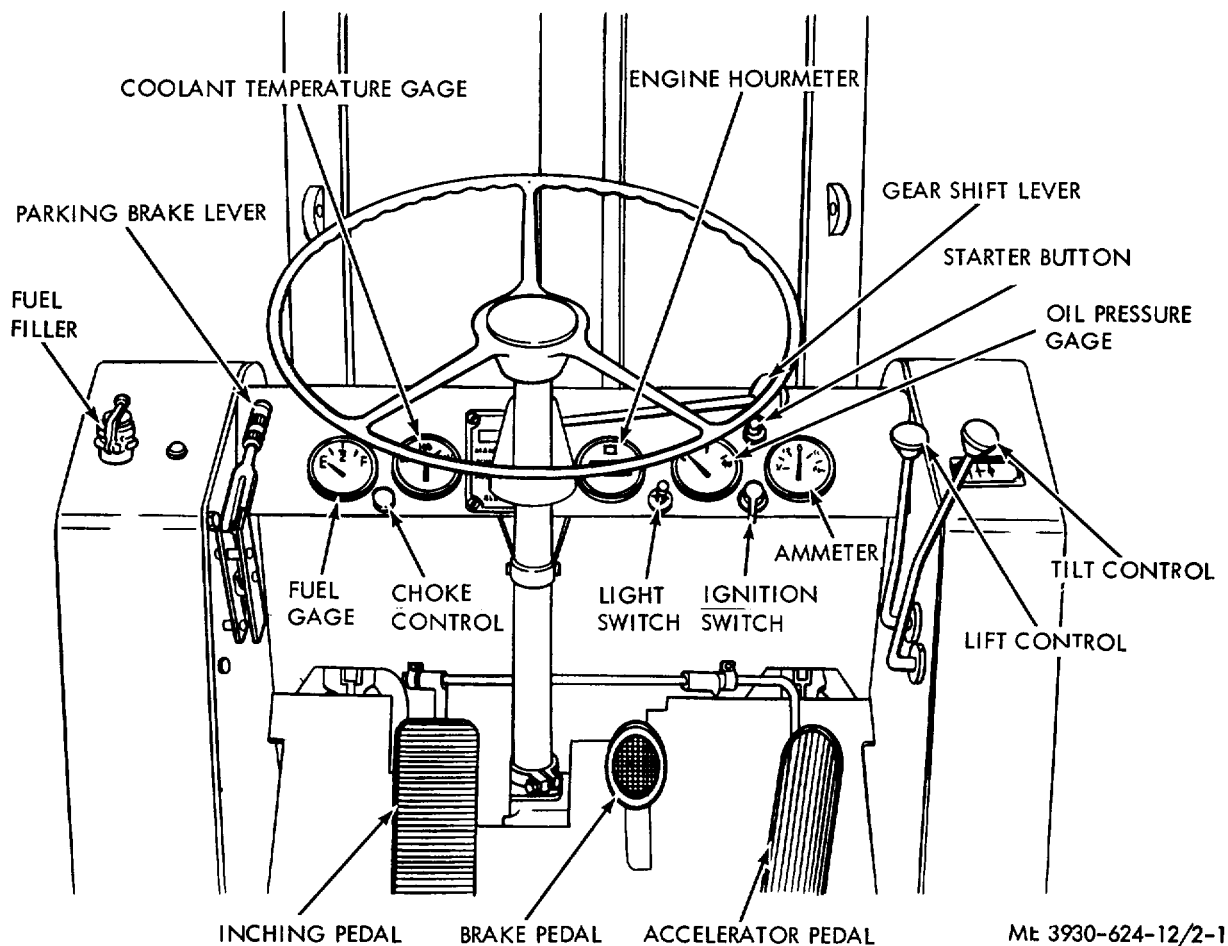

Figure 2-1. Controls and Instruments.
Refer to figure 2-1 for the location of the various instruments and controls.
(2) The speed of the engine and the size of the orifices in the control valve tilt plunger control the speed of tilt. When the mast reaches the desired angle of tilt, release the lever smoothly to the neutral position. The mast will hold at this angle.
**d. Inching Control.** This operation is done with a pedal operated by the left foot. Refer to figure 2-1 for location. Changing the pedal stroke varies the oil pressure in the clutch pack and applies the service brakes so that an "inching" operation can be performed without losing full engine power. The lower the pedal is depressed, the slower the truck will travel.